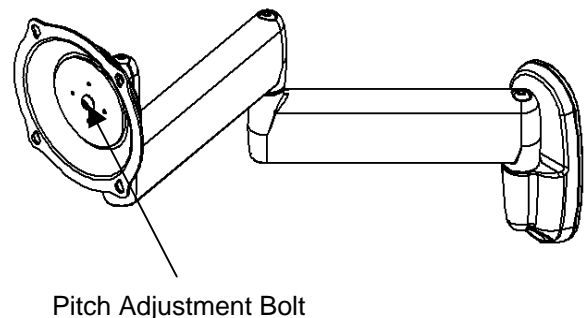

Figure 20. Adjust Pitch Tension
- b. Using a 3/16" hex wrench (170), slightly tighten or loosen pitch adjustment bolt to adjust Centris bracket as needed (see Figure 20).